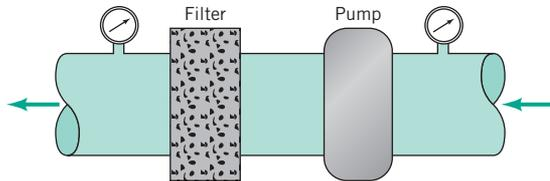

FIGURE P8.79
**8.79** When the pump shown in Fig. P8.79 adds 0.2 horsepower to the flowing water, the pressures indicated by the two gages are equal. Determine the flowrate.